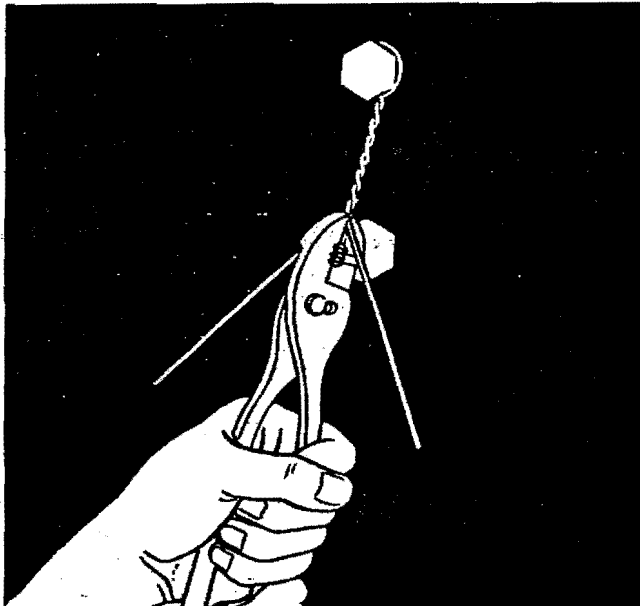

Figure 7-5. Wire Braided
d. Make sure that the loop around the head of the first bolt is still tight and in place; then grasp the wires in the jaws of the pliers just beyond the end of the braid and, with the braid held taut, twist in a clockwise direction until the braid is stiff [Figure 7-5].